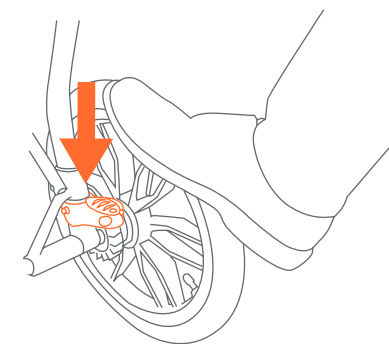

Fig. 11
- 11) • To engage brakes, apply downward pressure to the brake levers located on the rear axle. The stroller may require forward or rearward movement in order to engage the brake (Fig. 11). Check that the stroller will not move once the brakes are properly applied. To release, gently lift up on the brake levers.